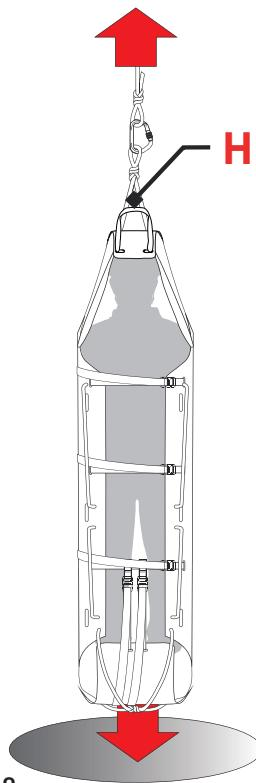

Fig.18
Vertical descent and recovery (fig 18) with the rope (H)	2400 kg
- **Vertical descent and recovery (fig. 18)**